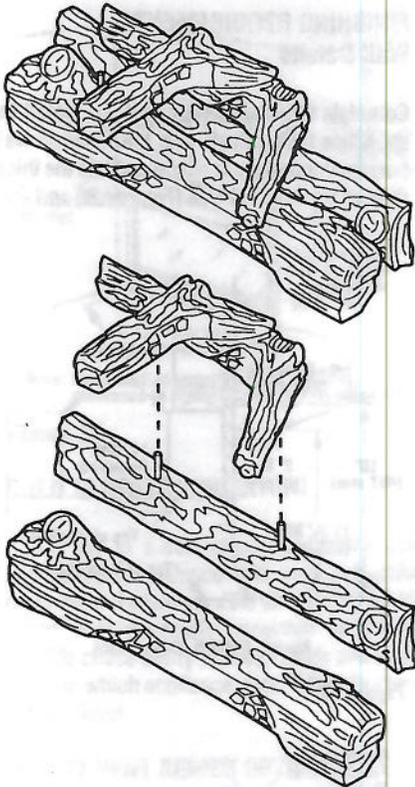

Figure 22
Place the smaller fiber top log across the two (2) lower logs in the manner illustrated (Figure 22). Position the top twig over the two (2) pins on the rear log.